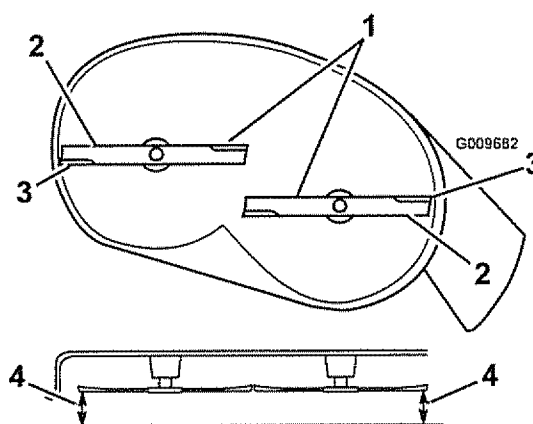
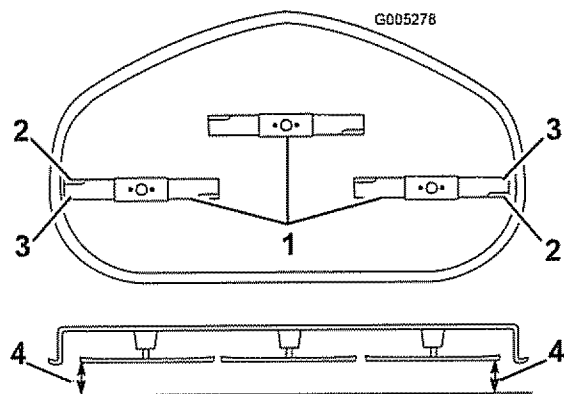

Figure 46
Figure 47
4. Carefully rotate the blades so that they are all side to side (Figure 46 and Figure 47).
5. Measure between the outside cutting edges and the flat surface (Figure 46 and Figure 47). If both measurements are not within 3/16 inch (5 mm), an adjustment is required; continue with this procedure.